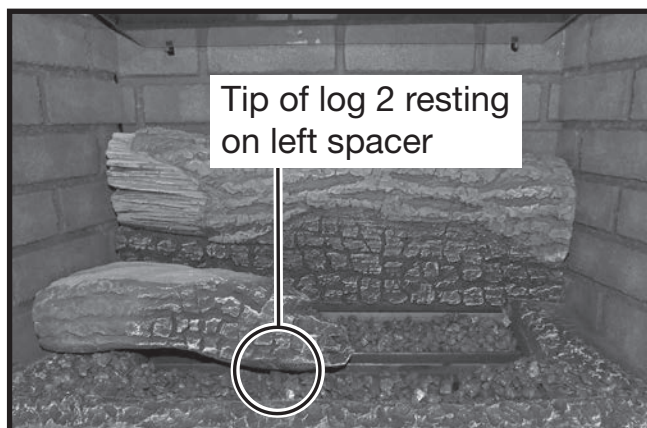

Figure 77: Log 2 positioned on left spacer.
10. Place log number two (Figure 56) so that the post protruding from the bottom of the log can be inserted into the hole of the left base piece. Then position the front of the log so that it rests on top of the left spacer (Figure 77). The log and the ember pieces should ideally hide the spacer.